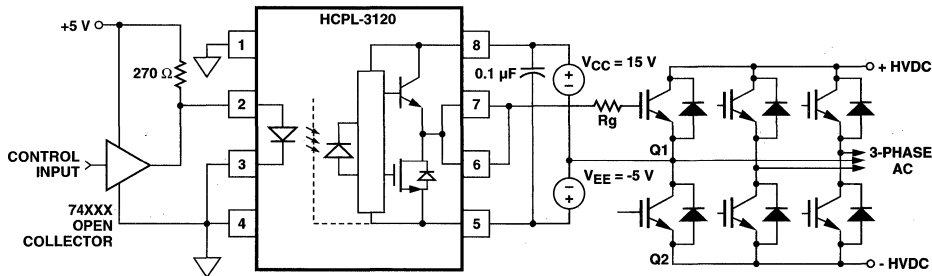

Figure 26. HCPL-3120 Typical Application Circuit with Negative IGBT Gate Drive.
Step 1: Calculate R_g Minimum from the I_{OL} Peak Specification. The IGBT and R_g in Figure 26 can be analyzed as a simple RC circuit with a voltage supplied by the HCPL-3120.
For the circuit in Figure 26 with I_F (worst case) = 16 mA, R_g = 8 Ω, Max Duty Cycle = 80%, Q_g = 500 nC, f = 20 kHz and T_A max = 85C: